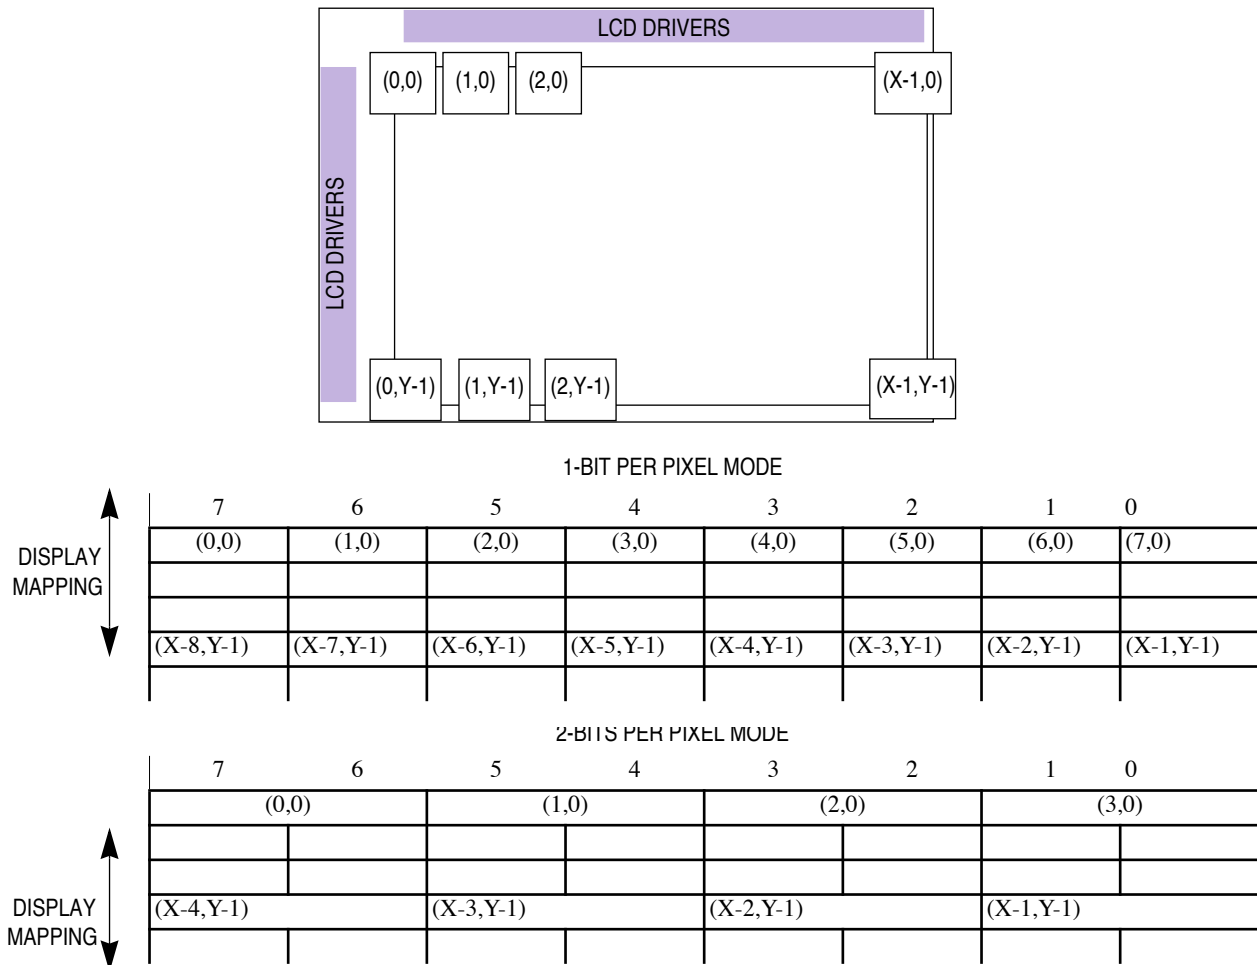

Figure 12-4. Mapping Memory Data on the Screen
**12.1.2.3 MAPPING THE DISPLAY DATA.** The LCD controller supports 1 or 2 bits per pixel graphics mode. In the 1-bit mode, each bit in the display memory corresponds to a pixel in the LCD panel. The corresponding pixel on the screen is either fully on or fully off. Meanwhile, in 2-bit mode, each pixel is being represented by two bits of display memory. To map the data to the LCD panel, you have to program the appropriate bit in the corresponding address of the display memory. Figure 12-4 illustrates how the system memory data in both modes are mapped.